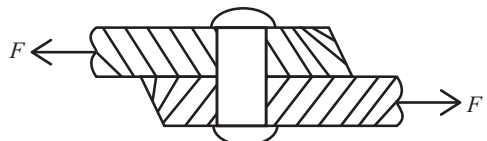

Figure 2.3
3. *Shear stress*: If two plates are joined together with rivet as shown in Fig. 2.3.